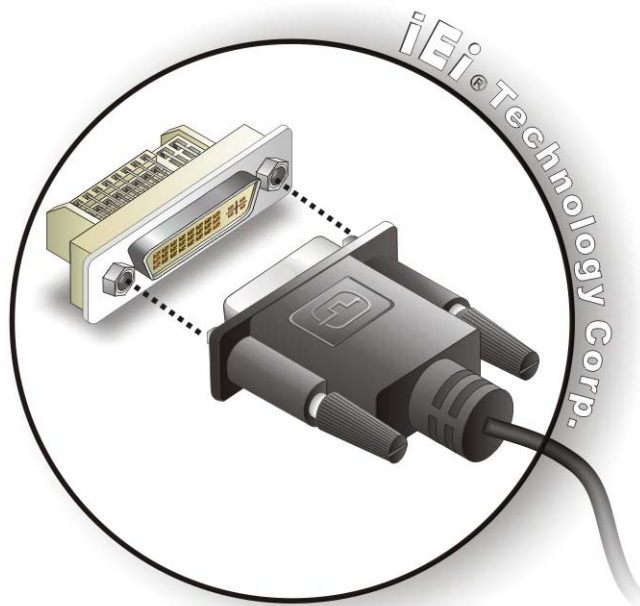

Figure 3-23: DVI Connector
Step 3: Insert the DVI connector. Once the connectors are properly aligned with the male connector, insert the male connector from the digital display device into the female connector on the ECN-680A-H61. See Figure 3-23.